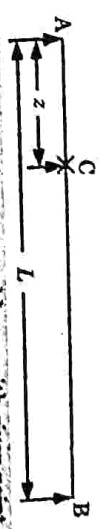

Fig. 4.4.1. Simply supported beam with given point C.
1. Let  $W$  be the moving load and the value of maximum SF and BM required be at C, which is at a distance  $z$  from A (Fig. 4.4.1). ILD for SF and BM are shown in Fig. 4.4.2 and 4.4.3 respectively.